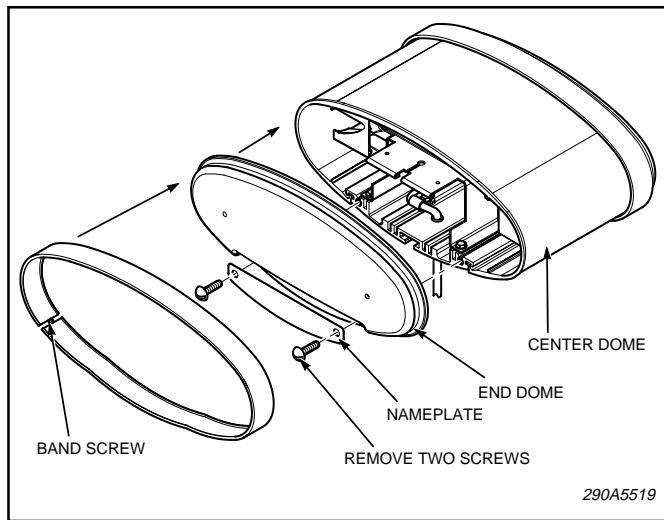

Figure 2.
1. See figure 2. Release the retaining band on the side of the light assembly without an LED module by loosening the screw on the band. Slide the retaining band off the light assembly.
2. See figure 2. Remove the two screws located at the identification plate of the dome on the side of the light assembly without an LED module. Retain screws, identification plate, and end dome assembly.